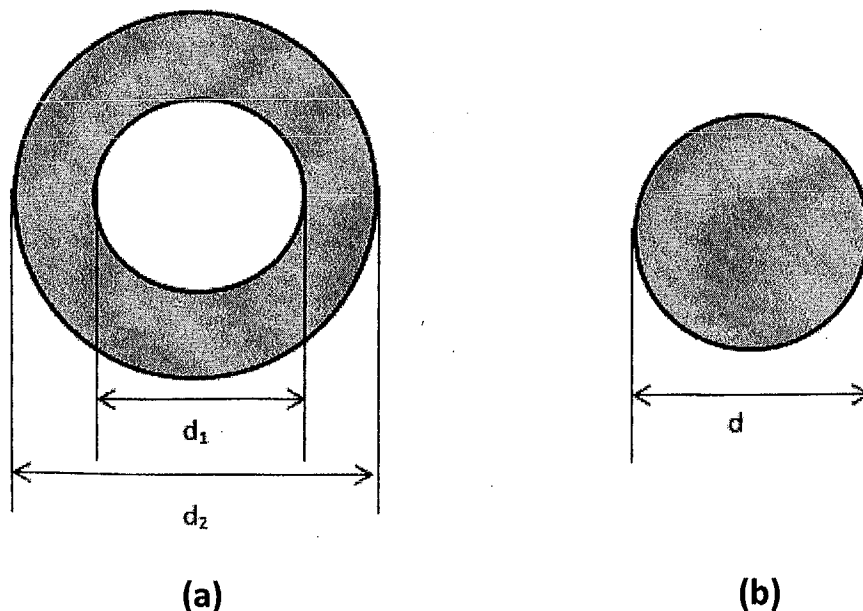

Figure 2
2. A hollow aluminum shaft is used in a roof structure and the inner diameter ( $d_1$ ) is 85 mm and outer diameter ( $d_2$ ) is 104 mm [see Figure 2(a)]. The shaft is 2.75 m long, and shear modulus ( $G$ ) of aluminum is 28 GPa.
b. A hollow aluminum shaft is replaced with aluminum solid shaft as shown in Figure 2(b). Applied torque and maximum stress are same with part (a).